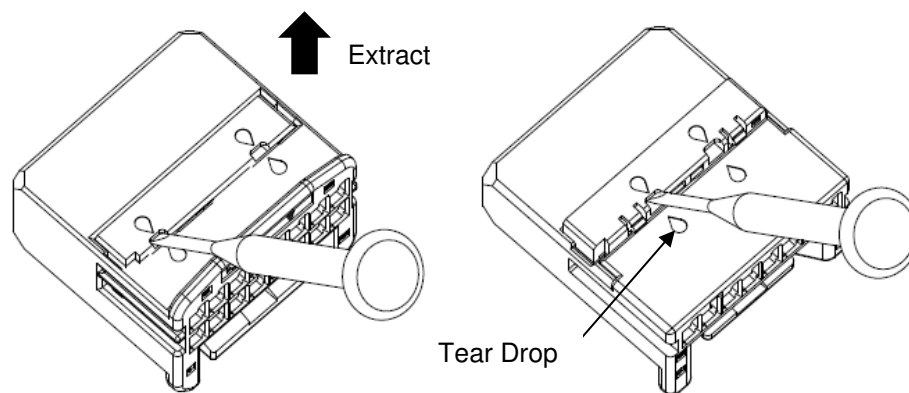

Fig. 6
- (1) Insert the jig, 1mm blade screw driver, into the window of the retainer pointed by the tear drop mark. (See Fig 6)
- (2) Draw out the retainer to pre-assembled condition.